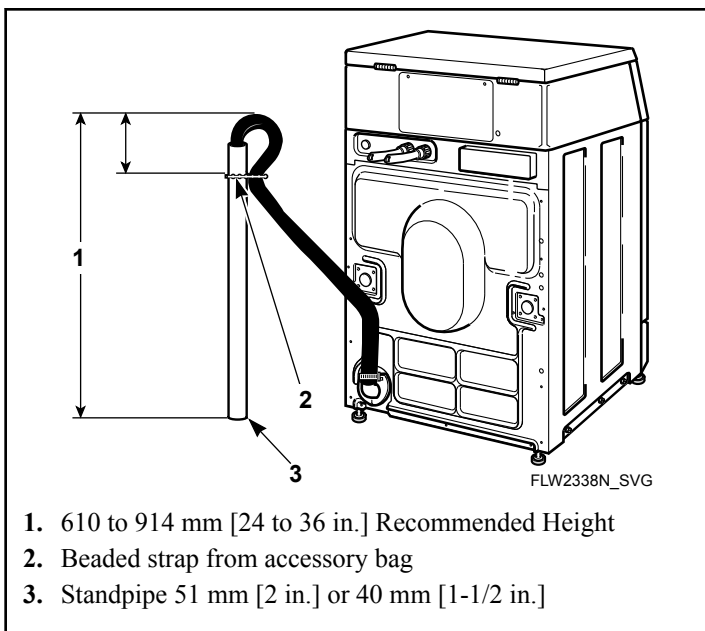

Figure 17
- Remove the beaded tie-down strap from accessories bag and place around standpipe and drain hose and tighten strap to hold hose to standpipe. Refer to *Figure 17*. This will prevent the drain hose from dislodging from drain receptacle during use.